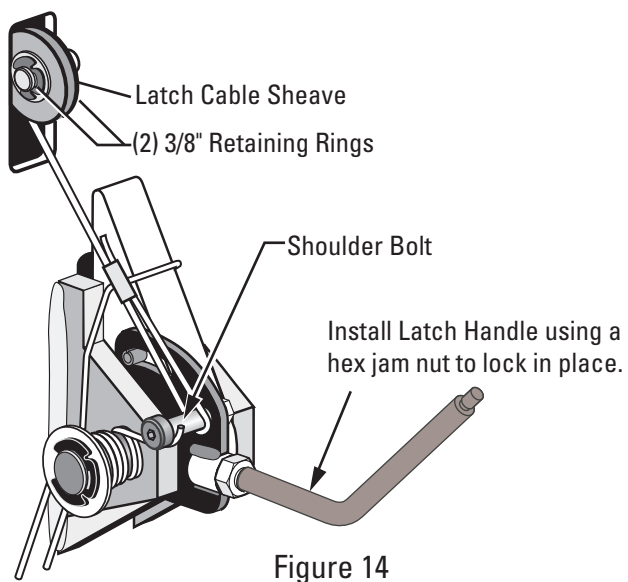

Figure 14
- A) Install latch cable sheave and retaining rings in upper slot of power unit column as shown, Fig. 14.
- B) Slip loop end of cable over end of shoulder screw on right side latch control plate, Fig. 14.
- C) Feed the other end of the cable through the latch cable sheave slot making sure that the cable is running under the bottom side of the latch cable sheave and inside the right column, Fig. 14.
- J) At this point you **MUST** install the latch handle, jam nut, and right column latch cover Fig. 14 & Fig. 17. Install latch handle ball, Fig. 17.
- D. To prevent the carriages from rubbing the hoses, pull the hoses upward taking out any slack between the cylinder fitting port and the cylinder mount. Secure the hoses to the mainside cylinder with a wire tie around the tee and the cylinder. The tee should be positioned to aim directly out through the grommet, Figure 14. Secure the hose to the offside cylinder at approximately the same height with a wire tie.